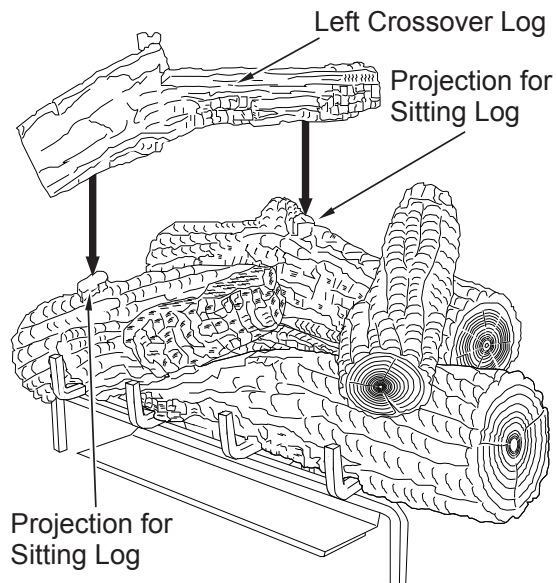

Figure 39 - Installing Left Crossover Log
6. Place the left crossover log onto the rear log and the left front log as shown in Figure 39. The left crossover log has notches in the bottom that will line up with the projections on the rear log and the left front log.